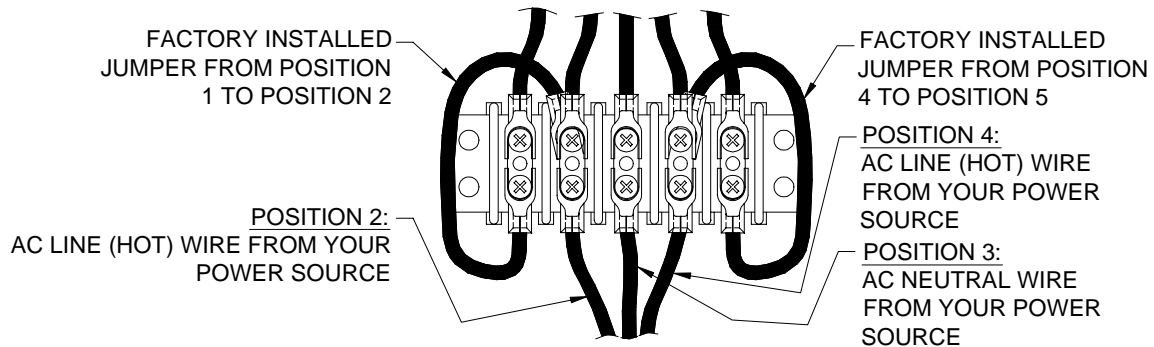

Figure 13 240 VAC Connections
4. If you are going to connect the scoreboard to a 240 VAC supply, connect one AC line wire to position 2, AC neutral wire to position 3, and the other AC line wire to position 4 of terminal strip T4 on the junction chassis according to figure 13.